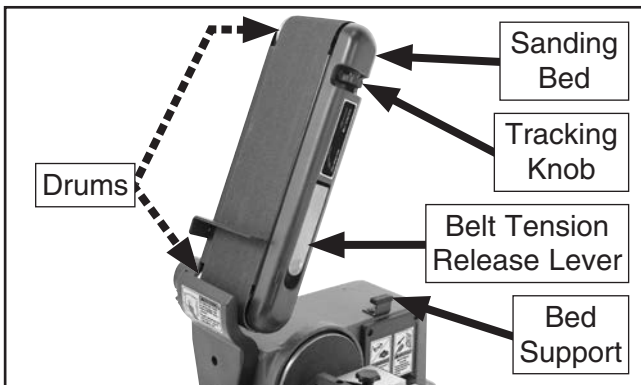

Figure 25. Changing/replacing sanding belt.
2. Raise sanding bed off of bed support, as shown in **Figure 25** (see **Adjusting Sanding Bed Angle** on **Page 18**).
3. Pull belt tension release lever out (**Figure 25**) to release sanding belt tension. The lever will snap into position.
3. If sanding belt moves toward disc (front of sander), rotate tracking knob (see **Figure 25**) clockwise $\frac{1}{4}$ turn.